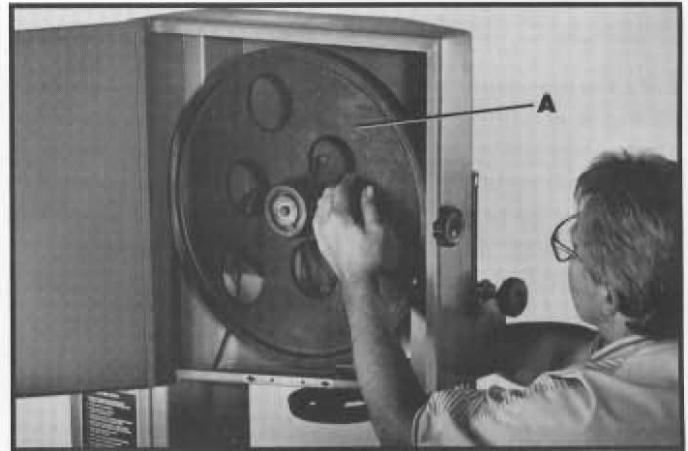
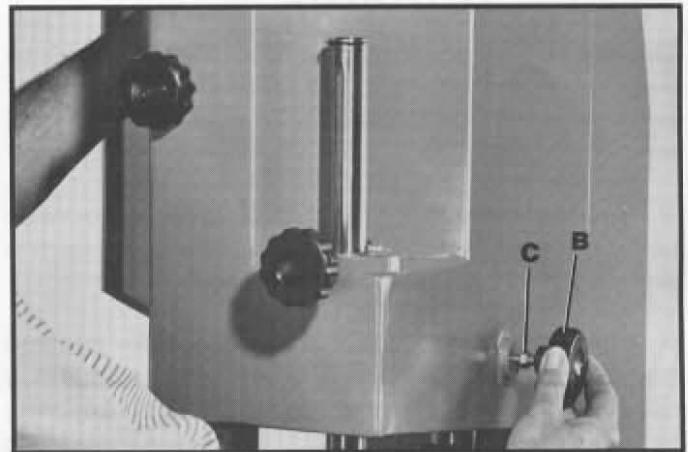

Fig. 11
Fig. 12
2. Rotate the upper wheel (A) Fig. 11, forward by hand as shown, and turn the tracking adjustment hand knob (B) Fig. 12, until the blade travels in the center of the upper wheel. **NOTE:** Before turning hand knob (B) Fig. 12, loosen locknut (C).
4. **WARNING:** To avoid the possibility of injury to the operator or damage to the blade, the initial tracking adjustment should not be made while the machine is under power, since at high speed the blade may run off the wheel almost instantly. **THE TRACKING KNOB (B) FIG. 12, SHOULD BE ADJUSTED ONLY A FRACTION OF A TURN AT A TIME AS REQUIRED TO DRAW THE BLADE ACROSS THE WHEEL.** Each blade has its own tendencies, especially after welding or brazing. The blade tracking adjustment must, therefore, be repeated whenever a new or repaired blade is installed, regardless of prior adjustments.
5. Make any final adjustments that may be necessary at operating speed and tighten locknut (C) Fig. 12.